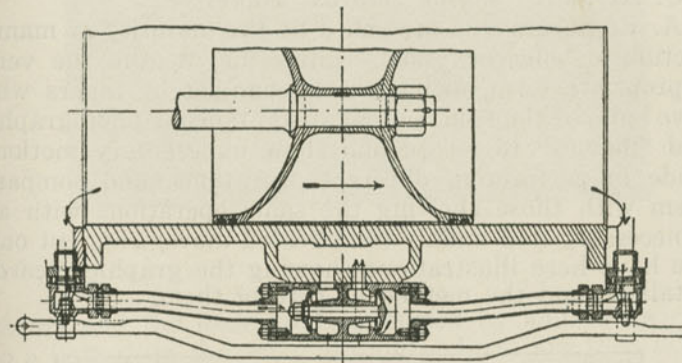

Fig. 419. Compression Release Valve for Unaflo Locomotive Cylinders.
A. By raising the valves from their seats by compressed air admitted between small pistons formed on the valve tappits so that the roller will clear the cam. (See Fig. 419.)